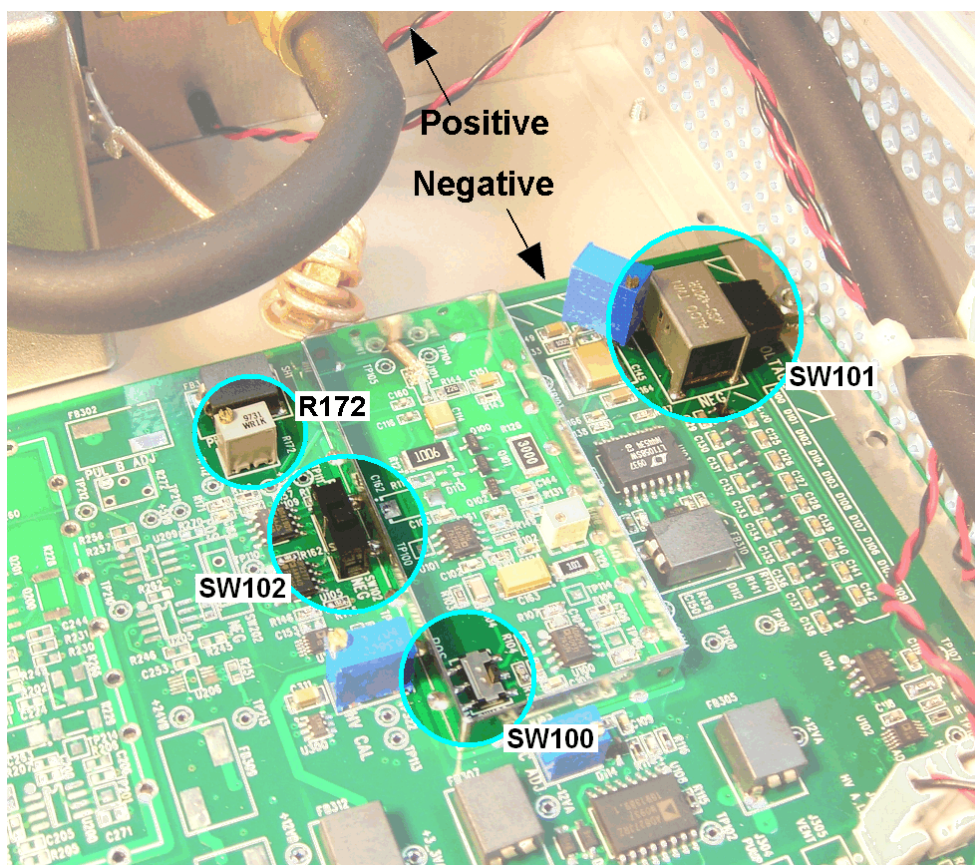

Fig. 14. Polarity Slide Switches and Pulser Adjustment.
- 3) The polarity switches are located on the half of the board closest to the top of the unit. They are highlighted in Fig. 14. Switch SW 101 is located at the top edge of the PWB. SW 102 is nearest the center line of the board, just outside the silver amplifier shield. SW 100 is located under its respective amplifier shield. Use your fingernail to *gently* pop the shield off. Slide all three switches toward the rear panel to change them to negative.
- 22) Referring to Fig. 14, adjust screw-potentiometer R172 until the pulser peak is in channel 2246.